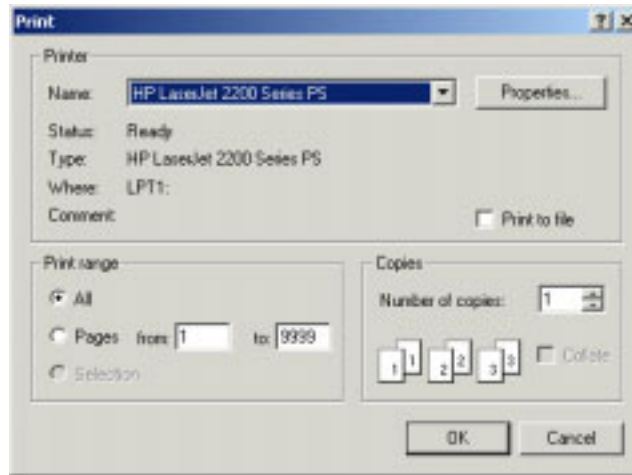

Figure 5.46 Sample "Print" Window
2. On the ETEdit (main) window, on the File menu, click Print. The Print window opens (Figure 5.46).
Note: The Print window (Figure 5.46) is a sample and varies from one platform to another. It is generated by the operating system, not ETEdit.